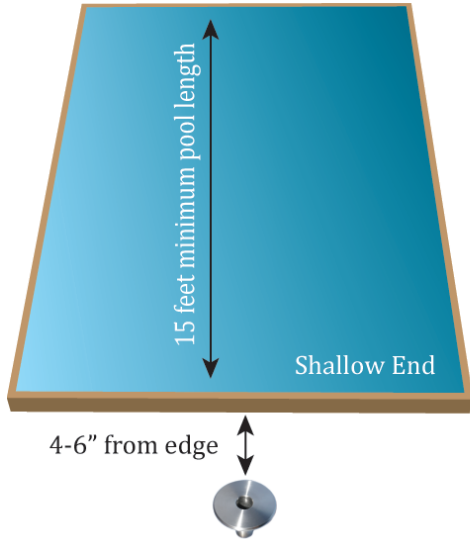

Fig.2
2. If the pool has a raised edge or lip, we recommend installing your Swimtether™ 4"-6" back from the edge or lip. (Fig. 2)